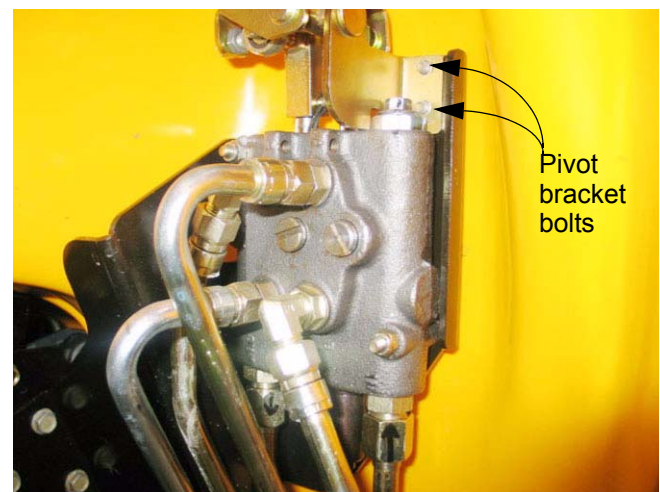

Figure 10.11
- 10.11. The pivot bracket bolts are inaccessible without removing the fender. See Figure 10.11.